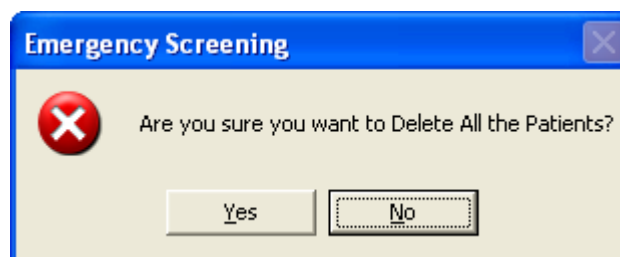

Figure 9-19
3. To delete all the patients at once, simply click the  icon. You will be prompted to confirm the deletion. Figure 9-19 will appear.